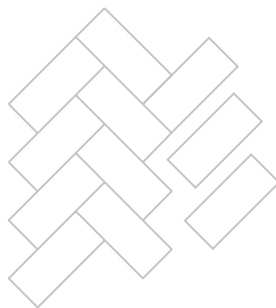

Figure 3: Pushing the planks closely together.
3. Glue down the next row. Set the planks into the glue as close to the adjacent planks as possible, pushing the planks firmly down and against the adjacent planks to prevent glue from getting into the tongue/groove joint. See Figure 3.